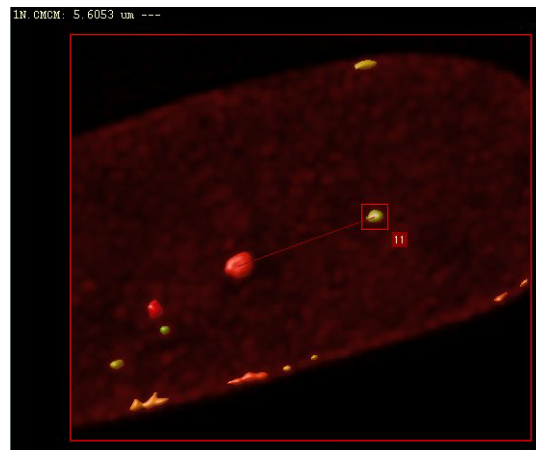

FIGURE 12.7. Interaction with the objects. When the distance to the nearest neighbor is computed, it is also displayed on the screen for the object aimed at.
You may also have noticed that something else happens when you interact with the rendered objects. In the example of Figure 12.7 the user clicked on object 11. A line joins the center of mass (CM) of this object with the center of mass of the nearest neighbor, and this distance is reported at the top of the window. (This is the only parameter reported on the canvas because that is the only one selected on the preset selection dialog, but all the interesting information is now included in the table too).